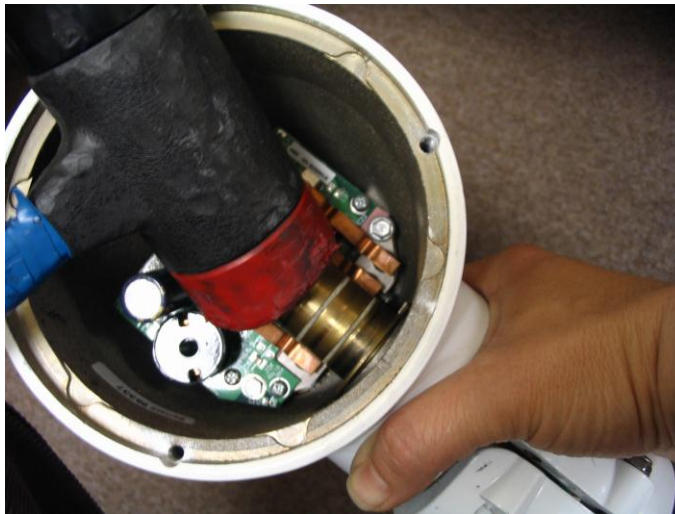

Fig. 2
- b.) Once the snap ring is removed, use a hammer and a blunt object or a plastic mallet to drive the yaw shaft assembly out by hitting it on the top end of the slip ring assembly, or use a screwdriver to separate the yaw shaft assembly from the body. This may take a little effort; so be careful. As the yaw assembly is removed, watch closely for the earth-ground brush and spring as they may release and be difficult to find. See Fig. 2